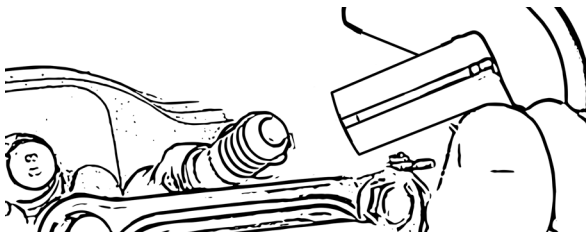

Figure 31
- Push the unit onto the spark plug, Fig. 31.